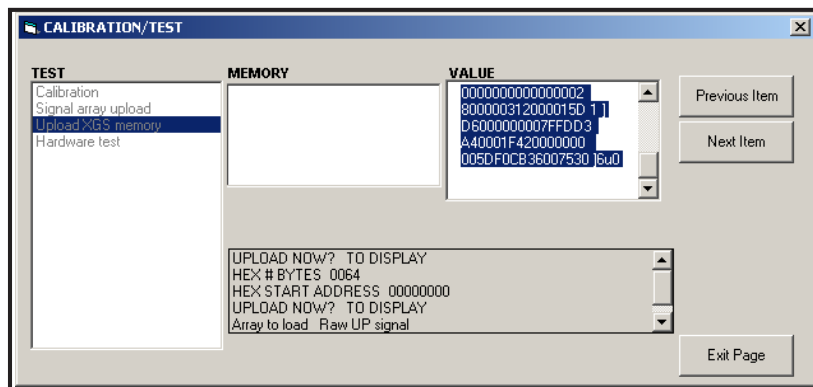

Figure 14: XGS868i Memory Data Displayed on PanaView
- If you double-click on *To Display*, the right pane of the window appears similar to Figure 14, and the data is available for immediate evaluation. Click [Exit Page] to close the window and return to the *Calibration/Test* menu.